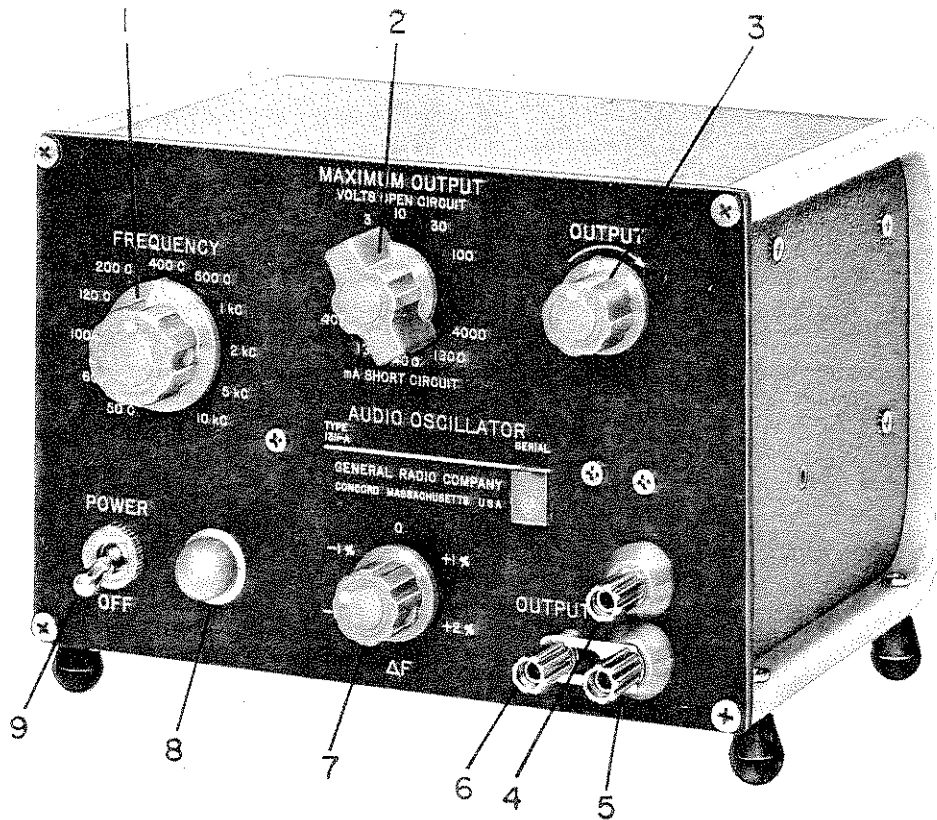

Figure 1-1. Type 1311-A Audio Oscillator.
1.1.1 GENERAL. The Type 1311 oscillators are complete, compact, and self-contained audio-frequency sources. The Type 1311-A (Figure 1-1) is intended for general laboratory use, and is particularly well suited for use in audio-frequency bridge measurements. Each oscillator produces an essentially pure sinusoidal output, stable in amplitude and frequency, over a wide range of load impedances, at selected frequencies. The Type 1311-A has eleven fixed frequencies and provision for a twelfth, which the user can readily add by installing two precision resistors.
3.1.2 GROUNDING. The instrument should normally be operated with the chassis grounded through the three-wire power cord. If the cord is not used, make the ground connection at J103(6, Figure 1-1) on the front panel, if required.
3.1.3 OUTPUT CONNECTION. Take the oscillator output from the jack-top binding post pair J101 - J102 (4 and 5, Figure 1-1). J101 is always used above ground, but J102 may be grounded or ungrounded, depending on the requirements of the test setup in use. A captive shorting-link affixed to J103 may be attached to J102, if it is desired to work one side of the output against ground. However, if ground loops pose a problem, disconnect the shorting link from J102 to achieve a completely isolated "floating" output.
3.2.1 TURN-ON. Place the POWER switch (9, Figure 1-1) in up position; the lamp immediately to the right should glow.
3.2.2 FREQUENCY SELECTION. Set the FREQUENCY switch (1, Figure 1-1) to the desired frequency. Use the ΔF control (7, Figure 1-1) to adjust the selected frequency over a range of approximately $\pm 2\%$ of nominal. The frequency of the output waveform is within $\pm 1\%$ of the panel
3.2.3 POWER SELECTION. Set the MAXIMUM OUTPUT switch (2, Figure 1-1) to a value in volts or milliamperes (as engraved on the front panel) that is slightly greater than the amplitude of the voltage or current desired. Then, rotate the OUTPUT control (3, Figure 1-1) to make the fine adjustment. The OUTPUT control sets the output at zero in its fully counterclockwise position, and rotated to its fully clockwise position provides a continuous linear increase up to the value of the MAXIMUM OUTPUT control setting.